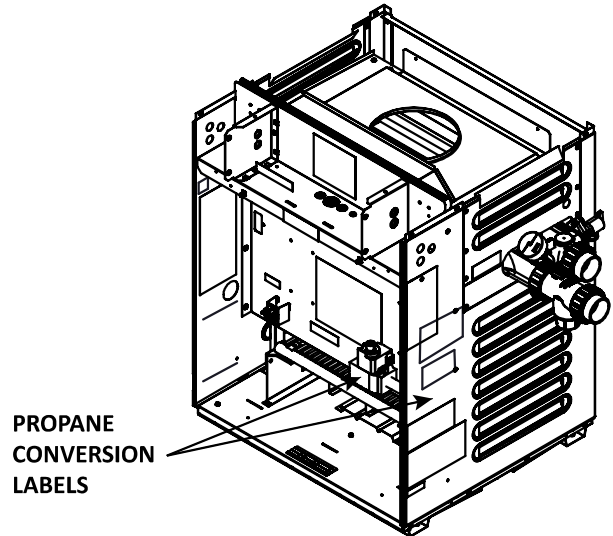

Figure 13. Apply Propane Decals
- Apply one (1) supplied "Propane" decal on the Gas Valve and the second Propane Conversion Decal on the heater's outer cabinet (See **Figure 13**).